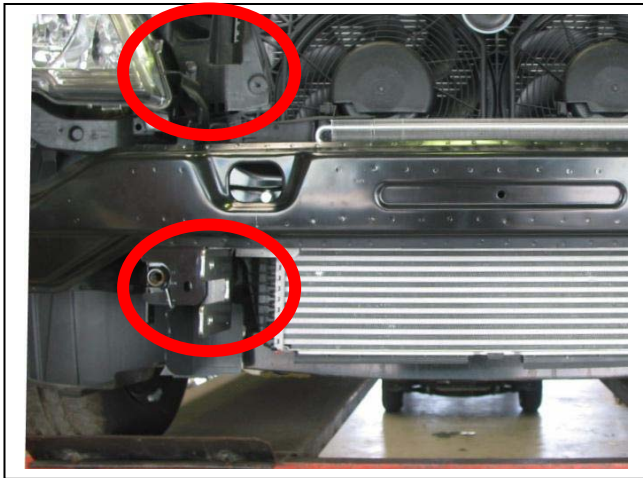

Figure 1: Positioning of air vents to be removed.
4. Remove one 10mm head bolt from air vent under crash can and one T25 torx screw on top of crash can into radiator support, on drivers side only. **See figure 1.**